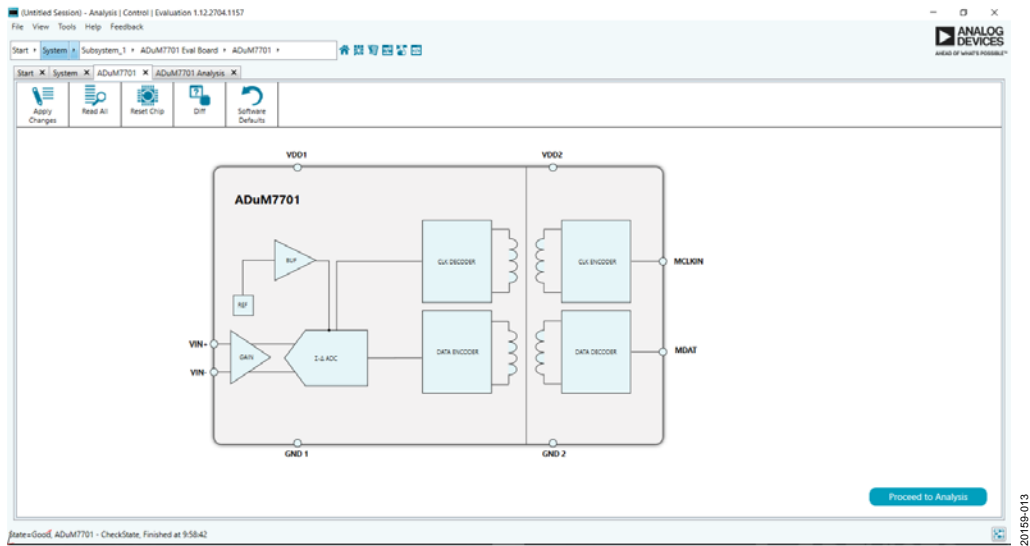

Figure 13. Chip View Window
3. Double click the **ADuM7701 Eval Board** icon to open the chip view window shown in Figure 13.